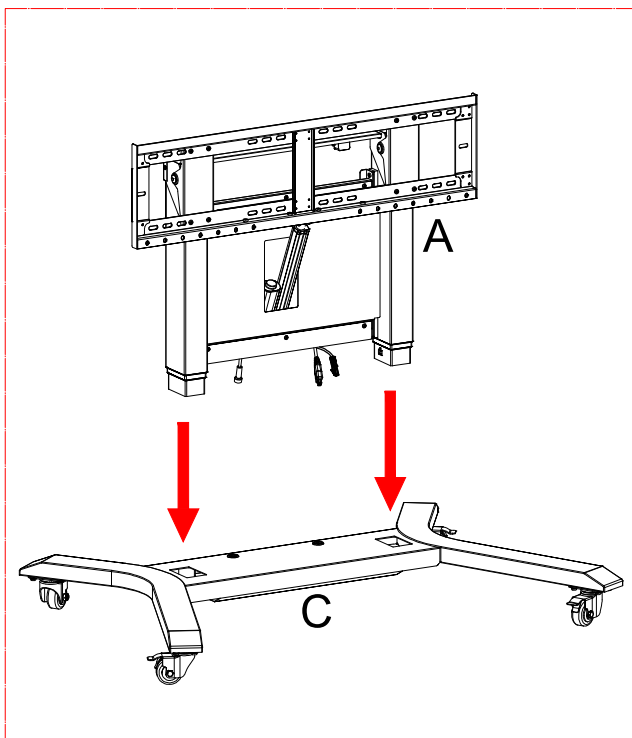

Figure 2
1) Insert the column (A) into the base (C), as Figure 2